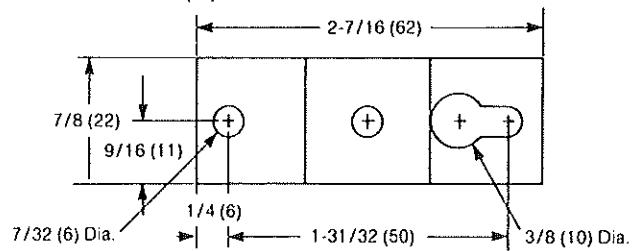

Figure 3. Mounting Bracket Dimensions
2. Drill mounting holes in subpanel per dimensions shown in Figure 3 or use mounting plate as a template.
3. Secure mounting plate with two (2) #10 screws (not provided) or use two (2) push-in fasteners (provided) if metal perforated subpanel is used.